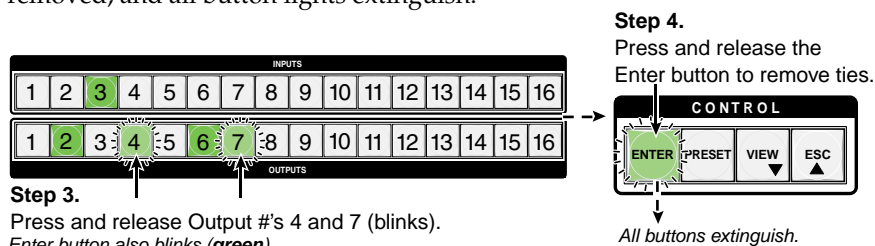

Figure 3-8 — Removing ties - an example; steps 3 and 4
- Press and release the blinking Enter button (see figure 3-8). The two ties are removed, and all button lights extinguish.